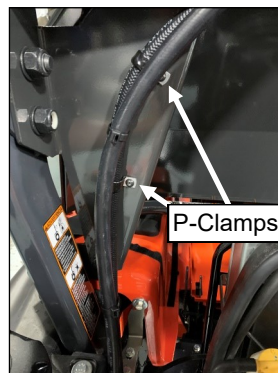

Fig. 6.6 (P-Clamp Hoses to ROPS Bracket)
- 6.6 See fig. 6.6. Install two p-clamps to the lower ROPS brackets as shown to secure the larger A/C hose to the ROPS bracket. Twist clamps and adjust hose position so that hose does not contact sharp edges of ROPS bracket.